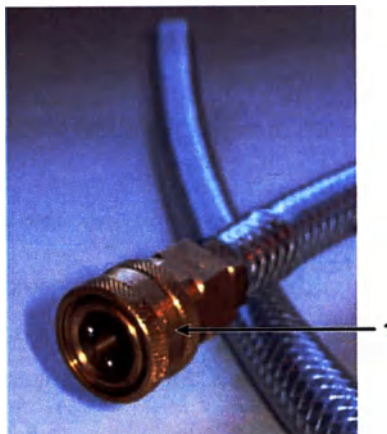

Figure 53. Remote fill/drain hose with locking ring (1)
- Before filling or draining reagent bottles, connect the remote fill/drain hose (see Figure 53) to the remote fill/drain line (left connection in Figure 53). The hose has a push-fit coupling that ensures a secure connection to the line.
To fit the hose, open the upper reagent cabinet door, slide back the fill/drain flap, and push the coupling onto the end of the line. To remove the hose, slide back the locking ring (item 1 in Figure 53) and pull the hose off the remote fill/drain line.